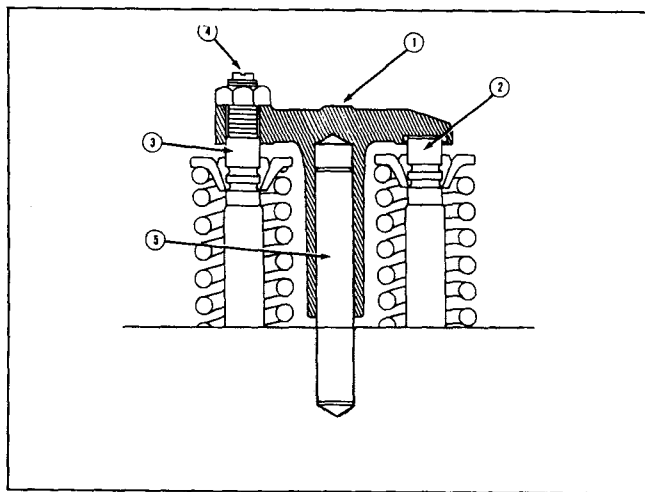

Fig. 14-58, (N21461). Valve crosshead
1. Loosen valve crosshead adjusting screw locknut and back off adjusting screw (Fig. 14-58) one turn.